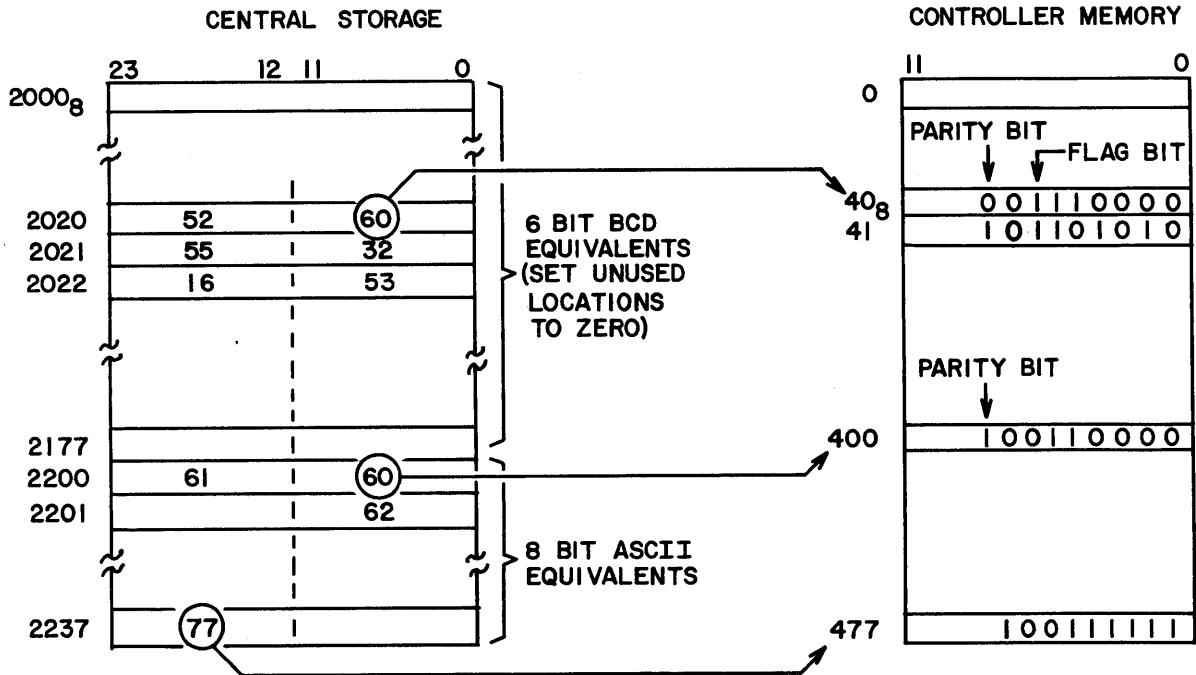

Figure 4-1. Load Memory Example
1. Set up tables in central storage as shown in Figure 4-1.